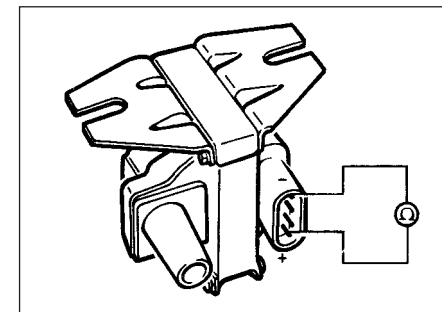

Fig. 13.83 Test connections for ignition coil primary windings check - Digiplex 2 ignition system (Sec 10)
**65** To check the resistance of the coil's primary windings, connect the probes of an ohmmeter between the positive terminal and the negative terminal as shown in Fig. 13.83, and check that the resistance reading at 18 to 28°C is 0.45 ohms  $\pm$  10% (photo).